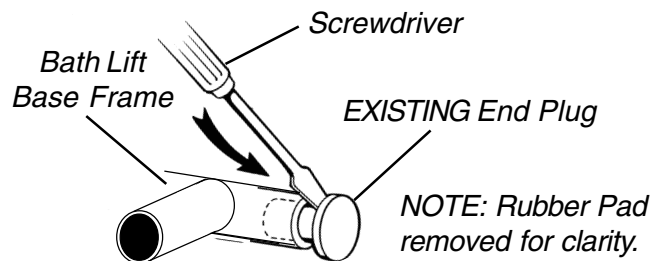

FIGURE 12 - REMOVING THE EXISTING END PLUG
- Place NEW end plug into the bath lift base frame and using a hammer gently tap the end plug securely into position (FIGURE 12).
- Place screwdriver behind the lip of the EXISTING end plug (FIGURE 12).